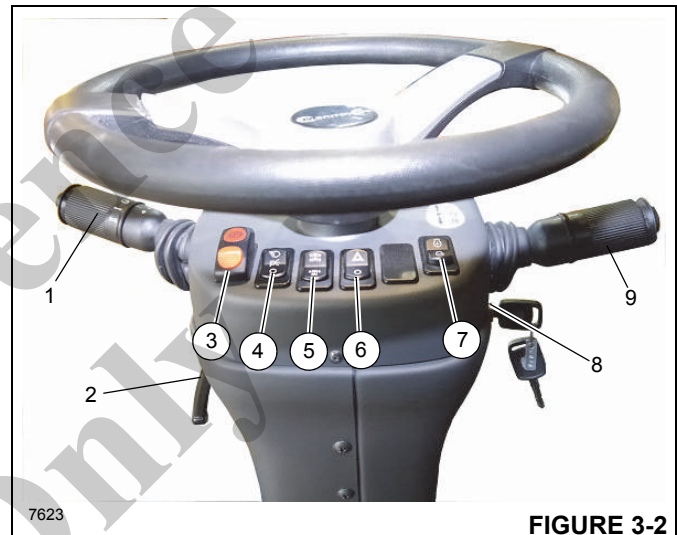

Figure 3-2 Item Numbers
The steering column assembly (5) (Figure 3-1) is a pedestal style tilt and telescoping steering column. It has the ability to tilt rearward 30° or be raised vertically approximately 60 mm (2.3 in). It also includes the ignition switch and other control switches (Figure 3-2).
The Turn Signal Lever and Windshield Wiper/washer Controls (1) (Figure 3-2) are located on the left side of the steering column. Pushing the turn signal lever down causes the left front and left rear turn signals to flash. Pushing the turn signal lever up causes the right front and right rear turn signals to flash.
The steering control column can be rotated rearward approximately 30° and raised approximately 60 mm (2.3 in). Rotate the control lever (2) (Figure 3-2) down to lock the steering column in place; rotating the lever up releases the steering column for adjustment.
The Park Brake Control Switch (3) (Figure 3-2) is located on the front of the steering column. This two-position rocker switch (ON/OFF) is used to apply and release the parking brake on the drive line. The red Park Brake Indicator light on the display is illuminated when the pressure switch in the brake release system is activated and the brake is applied.
The Headlights Switch (4) (Figure 3-2) is located on the front of the steering column. This three-position rocker switch (OFF/Park/Headlight) controls operation of the instrument lights, switch LED's, and the marker lights on the front, rear, and side of the crane. The switch is illuminated when the key is in the ON or Start position.
The Drive Axle Selector Switch (5) (Figure 3-2) is located on the front of the steering column. This two-position rocker switch is used to select either two-wheel drive (high range) or four-wheel drive (low range). The switch controls a solenoid valve (energized for two-wheel drive) that operates the speed range and axle disconnect cylinders on the transmission. The icon background on the CCS operating display turns yellow when the crane is in four-wheel drive
The Hazard Lights Switch (6) (Figure 3-2) is located on the front of the steering column. The switch is a two-position rocker switch (ON/OFF) that causes the four turn signal lights to flash at the same time when the switch is positioned to ON. When the switch is positioned to ON, the turn signal indicator lights on the steering column will flash.
The Increment/Decrement Switch (7) (Figure 3-2) is a three position momentary rocker switch with center maintained position being off. Use this switch to adjust engine speed. Press the top or bottom of the Increment/Decrement Switch to increase or decrease the low engine idle.
The Ignition Switch (8) (Figure 3-2) is located on the right side of the steering column and under the transmission shift lever (9).
The Transmission Shift Lever (9) (Figure 3-2) is located on the right side of the steering column. The control lever operates the transmission selector valve electrically. Positioning the lever up actuates forward and positioning the lever down actuates reverse. When the lever is in neutral, it rests in a detent. To move the lever up or down, pull up on the lever first. To shift the transmission to first, second, or third gear, rotate the knob to 1, 2, or 3.